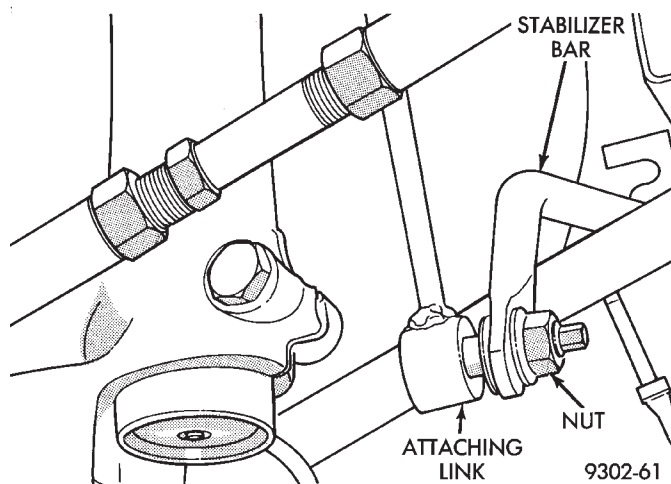

Fig. 9 Link Attachment To Stabilizer Bar
(7) Install a thin open end wrench, on the hex of attaching link stud to keep the stud from turning in link. Then remove nut from stabilizer bar to strut assembly attaching link stud, at the stabilizer bar (Fig. 9). The attaching link does not have to be removed from strut assembly.
(4) Install stabilizer bar attaching link onto stabilizer bar (Fig. 9). Install stabilizer link to stabilizer bar attaching nut (Fig. 9). Tighten the stabilizer link to stabilizer bar attaching nut to a torque of 95 N·m (70 ft. lbs.).